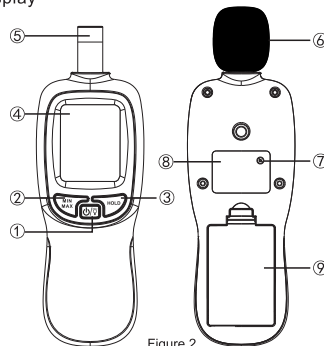

Figure 2
C. Name of Each Component (referring to Figure 2)